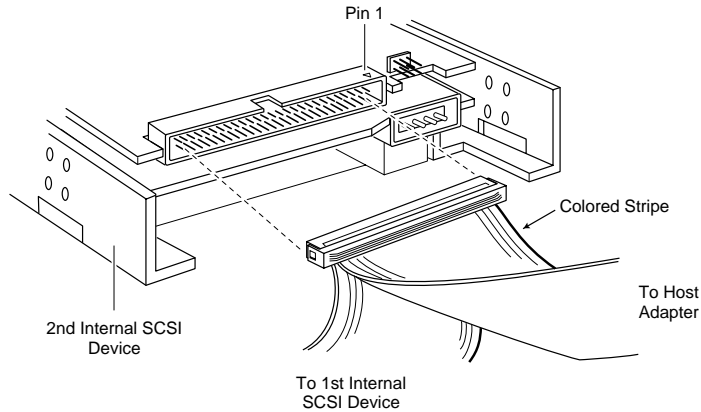

Figure 5-6. Connecting a Second Internal SCSI Device
- 4 To connect other internal SCSI devices, plug the devices into the other connectors on the ribbon cable, as shown in Figure 5-6.